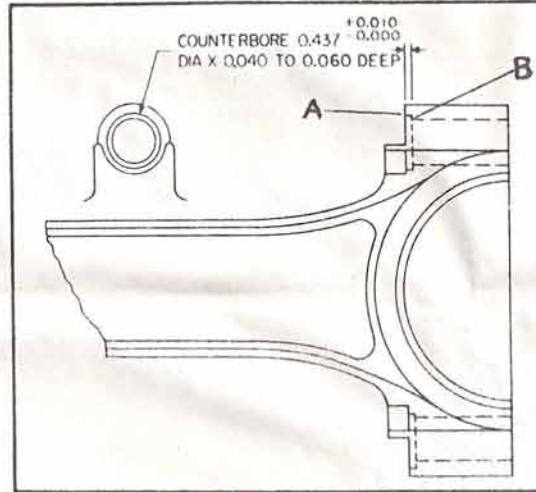

Figure 8-2
b. Counterbore the blade half of the connecting rod at the bolt head end of both bolt holes to a diameter of 0.437 +0.010 inch in accordance with figure 8-2.
c. Burr mouth of counterbore (A, Figure 8-2) using hand ball burr. Remove minimum stock.
d. Burr bolt hole edge (B, Figure 8-2) using 60° included hand burr. Remove minimum stock.